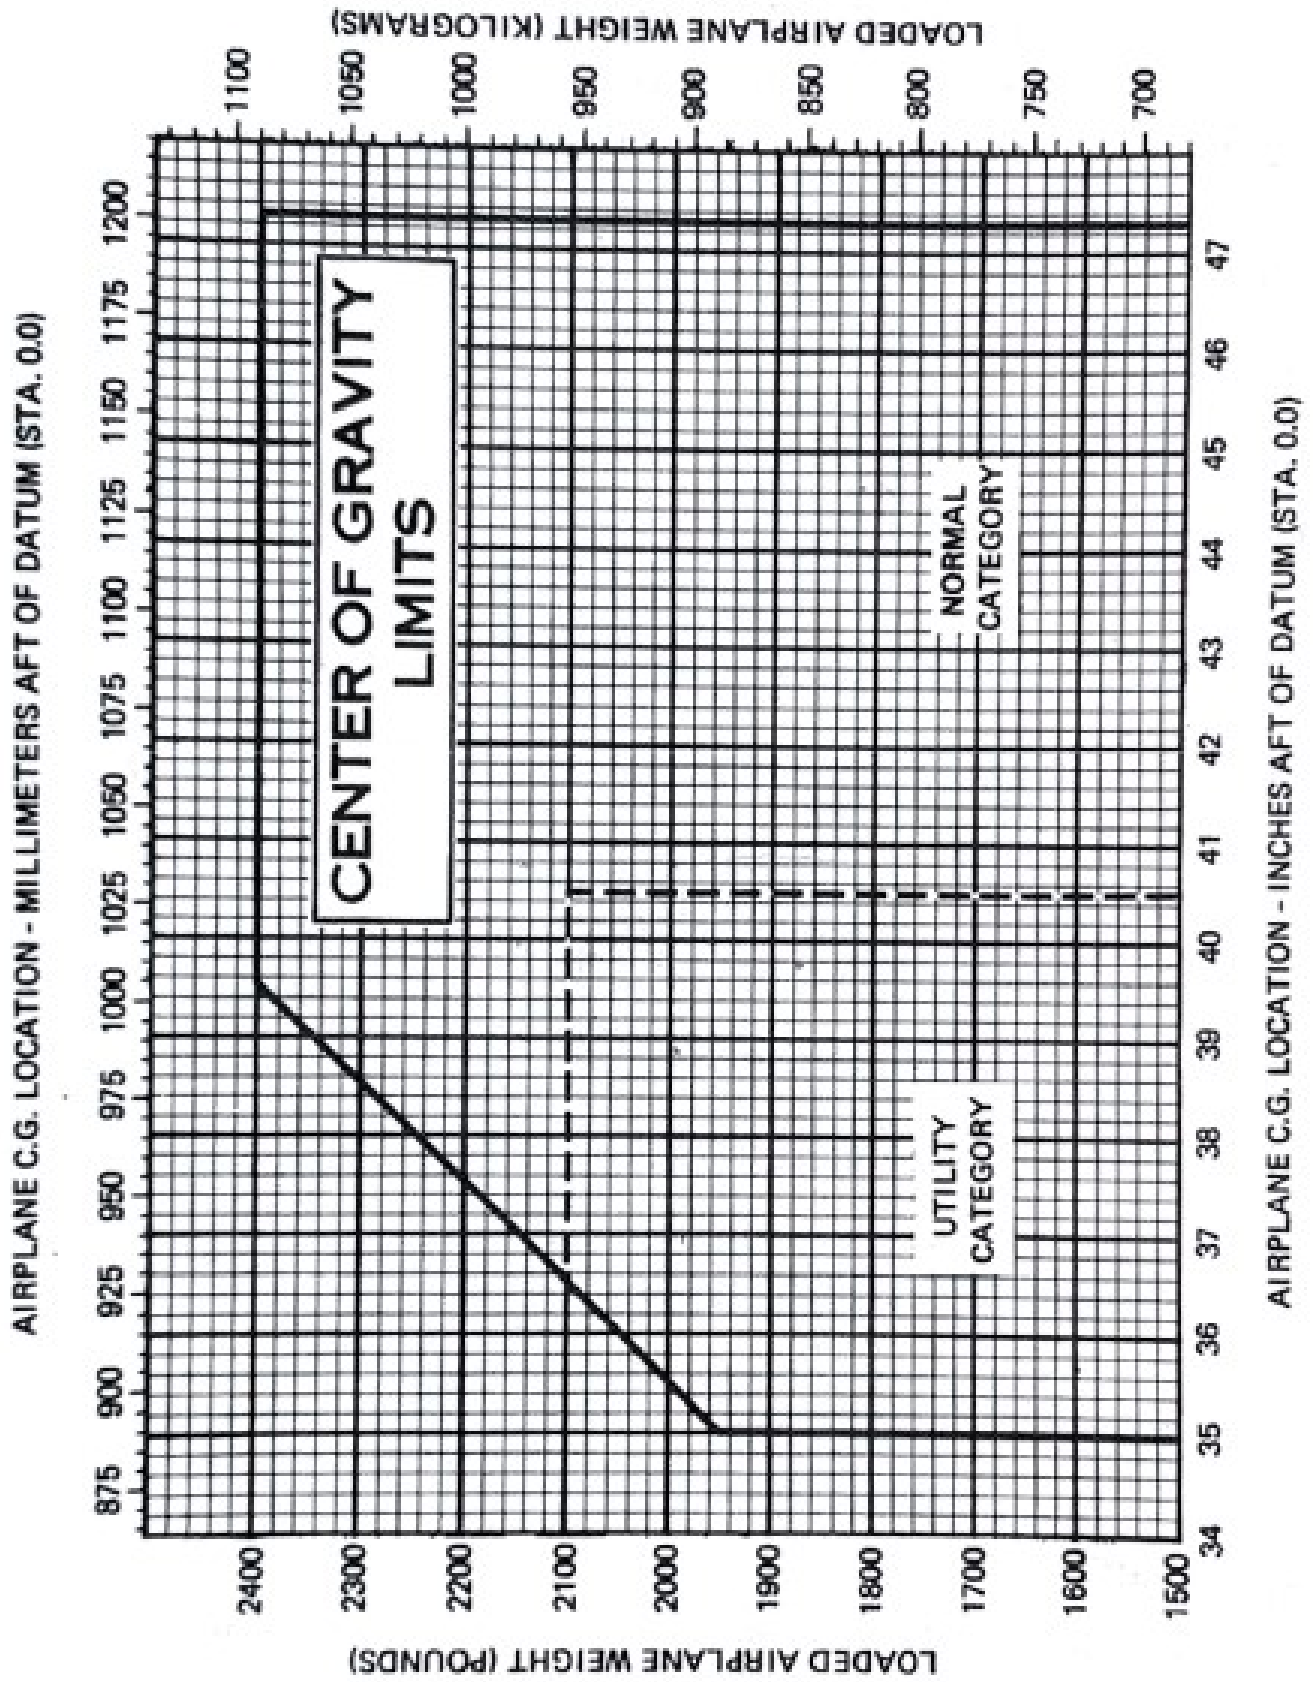

Figure 6.8
10. Calculate the Center of Gravity (CofG) by dividing the total moment by the takeoff weight in Line 9. Enter this value into Line 10 on your table. This is the center of gravity for your departure. Using the Center of Gravity Limits Graph (Figure 6.8), plot the takeoff weight and CofG to ensure that your center of gravity limits are within the envelope.